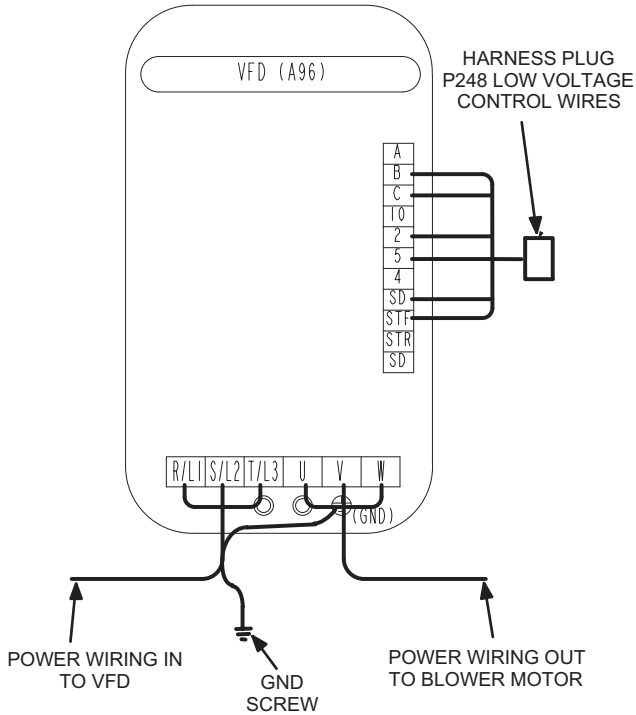
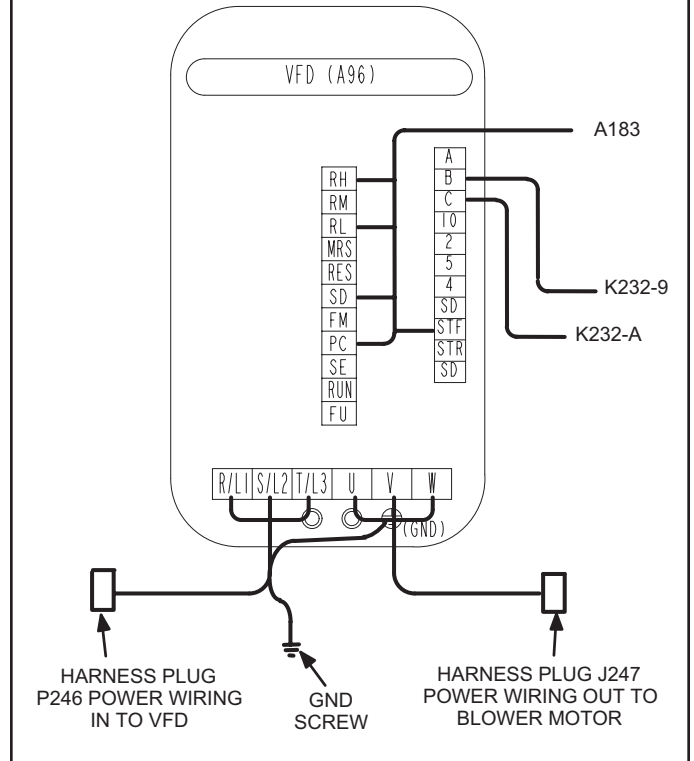

**FIGURE 6**
FIGURE 10
- 2 - Open the lower cover on the VFD to access wire connections. Disconnect the wires from the terminals, making special note of the wire color and stamping that was connected to each terminal. See FIGURE 6 through FIGURE 10.